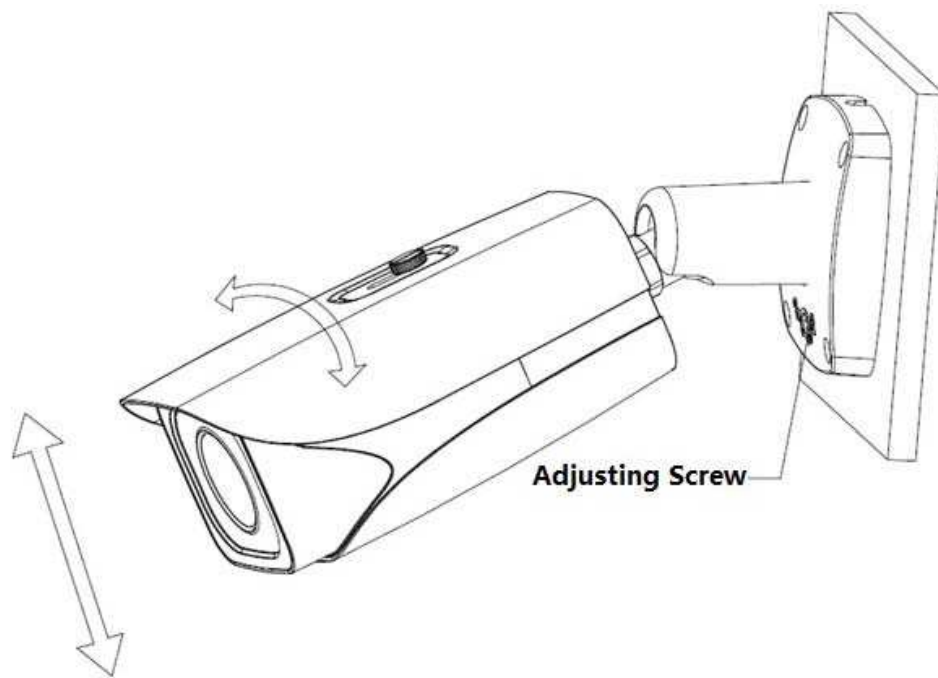

Figure 3-2
- If it is the model c or c (1), then use the L-shaped wrench in the accessories bag to loosen the adjusting screws, adjust the camera to the specific direction which needs to be monitored, then use L-shaped wrench to tighten adjusting screws and fix the camera, see Figure 3-2.